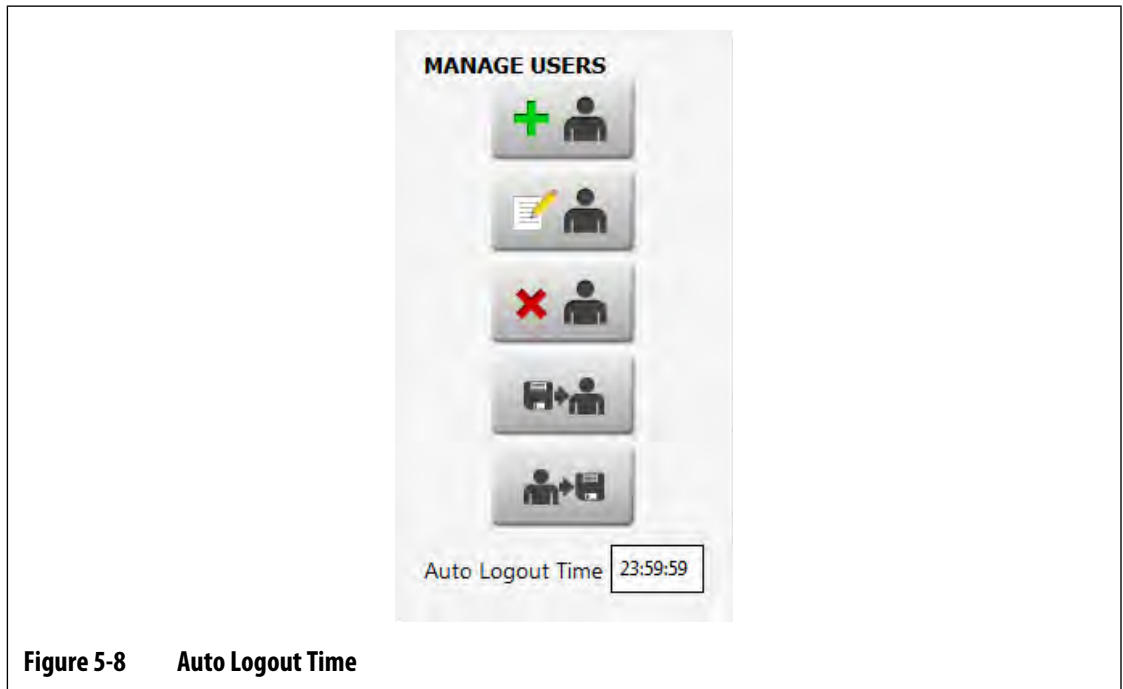

Figure 5-8 Auto Logout Time
3. Touch the **Auto Logout Time** field and enter the desired time value in the dialog window. Refer to Figure 5-8.